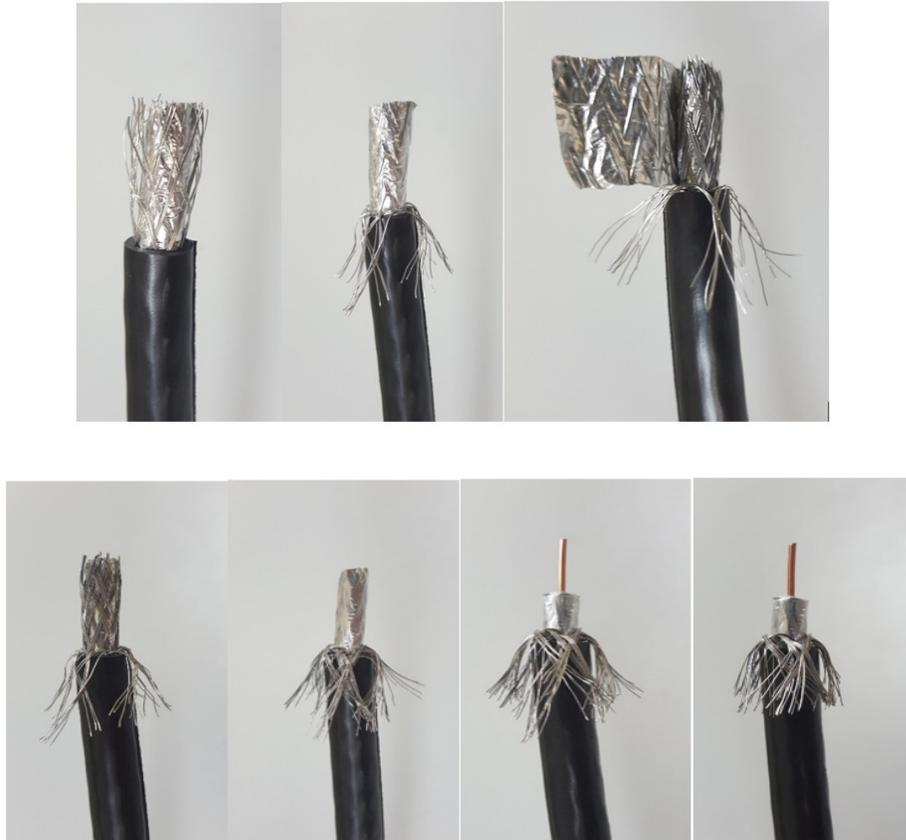

Figure B-3. Procedure to Cut the Quad Shield Cable
- Fold the braid back over the jacket and trim the braid to the length as defined under **Length C** in Table B-1 on page 27 and Figure B-3.